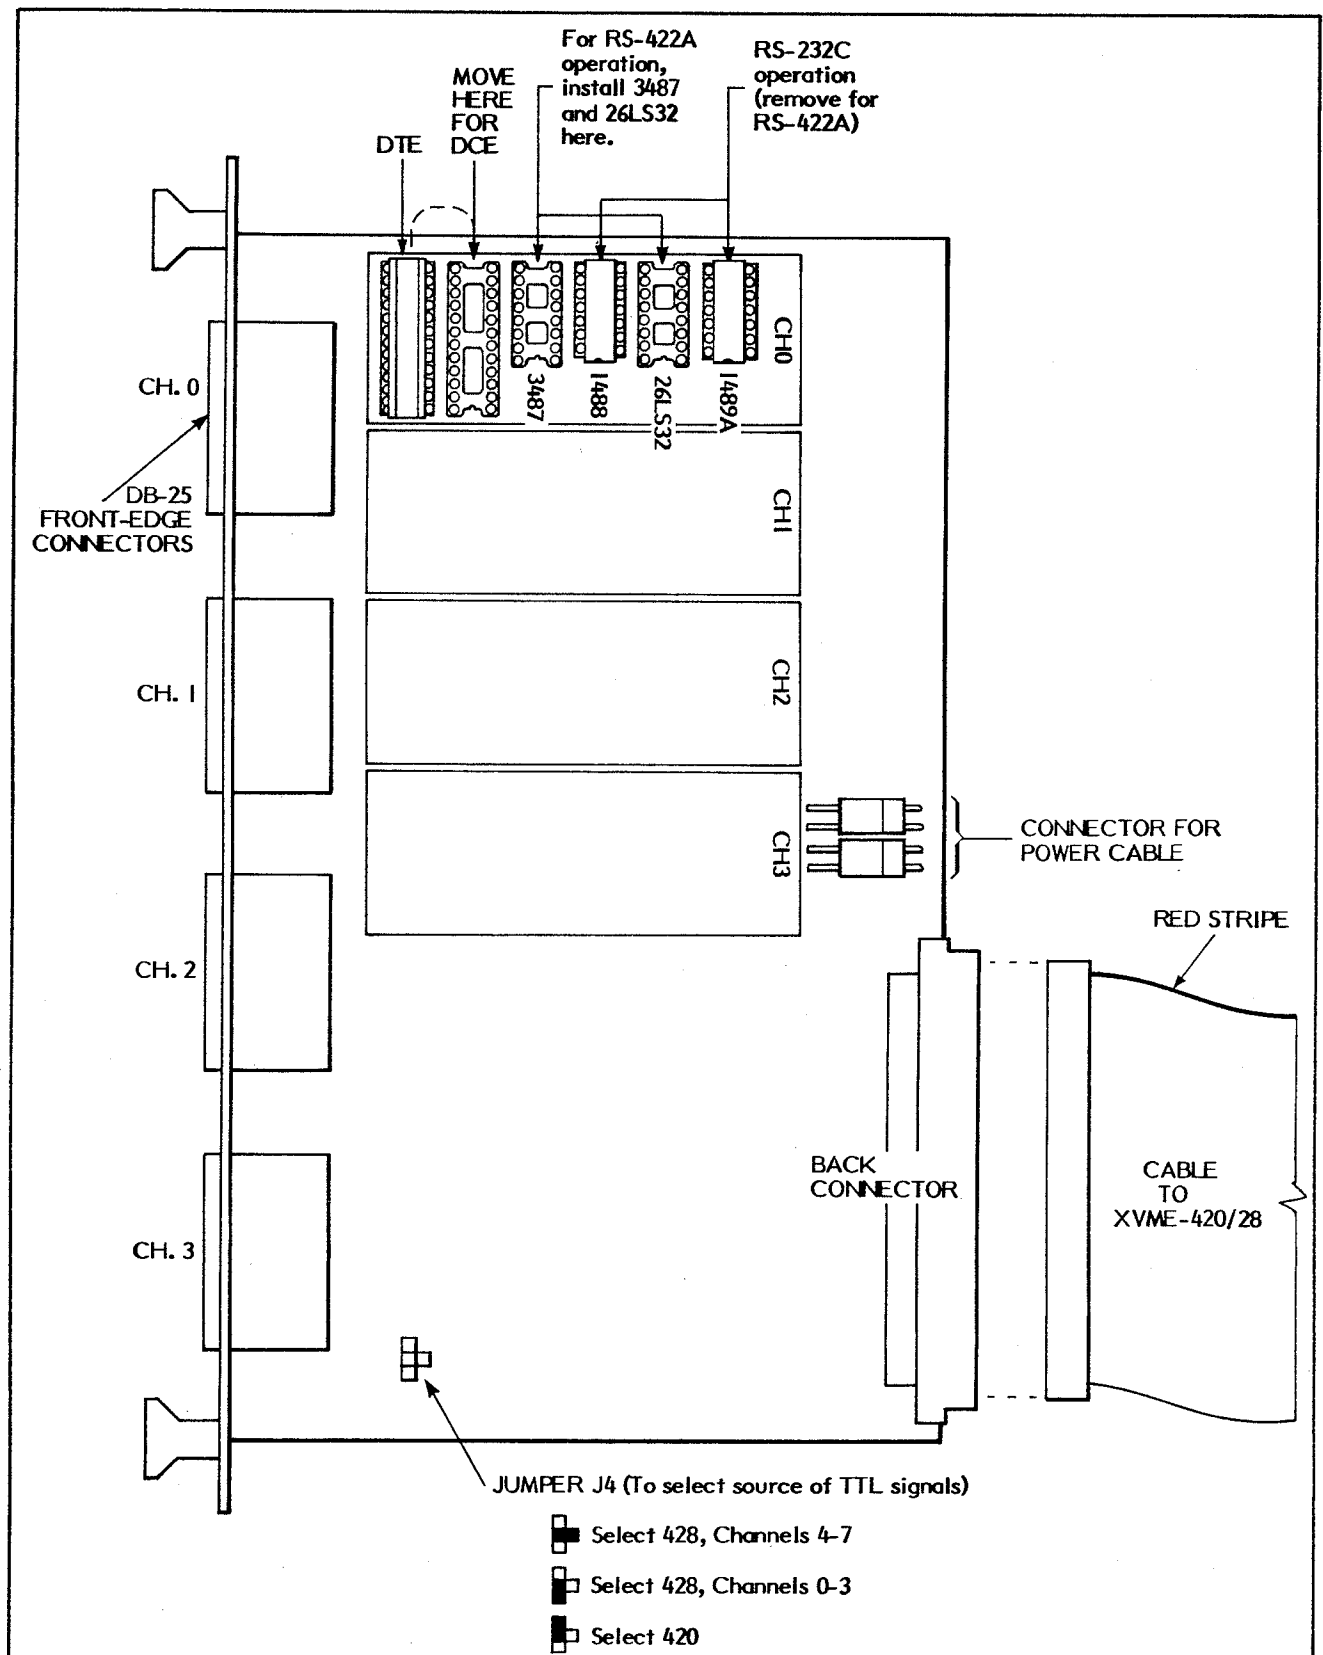

Figure 1. XVME-904 Major Components
- One cable which connects P2 on the XVME-420 or XVME-428/3 to the back of the SCA (see Figure 1).
A single three-position jumper determines with what module the SCA can be used. This jumper is clearly marked on the silkscreen and shown in Figure 1.
The SCA is shipped with each channel configured for RS-232A operation. What establishes the operation as RS-232C are two ICs (1488 and 1489A) per channel, which come installed when the SCA is shipped. The locations of the relevant ICs is clearly marked on the silkscreen and shown in Figure 1. Note that each channel is configured separately, with its own set of chips. A clearly defined area of the SCA board is allotted to each channel.
Each of the four channels on the XVME-904 can be individually configured to function either as DTE or DCE. The choice for each channel is determined by four chips (which are actually DIP jumper networks), one chip per channel. The XVME-904 is shipped with all four channels configured for DTE. The areas of the board corresponding to each channel, as well as locations of the relevant chips, are clearly marked on the silkscreen and shown in Figure 1.
2. The other end of the cable has two connectors. Connect the top connector (with red stripe) to the port on the back of the SCA (see Figure 1).